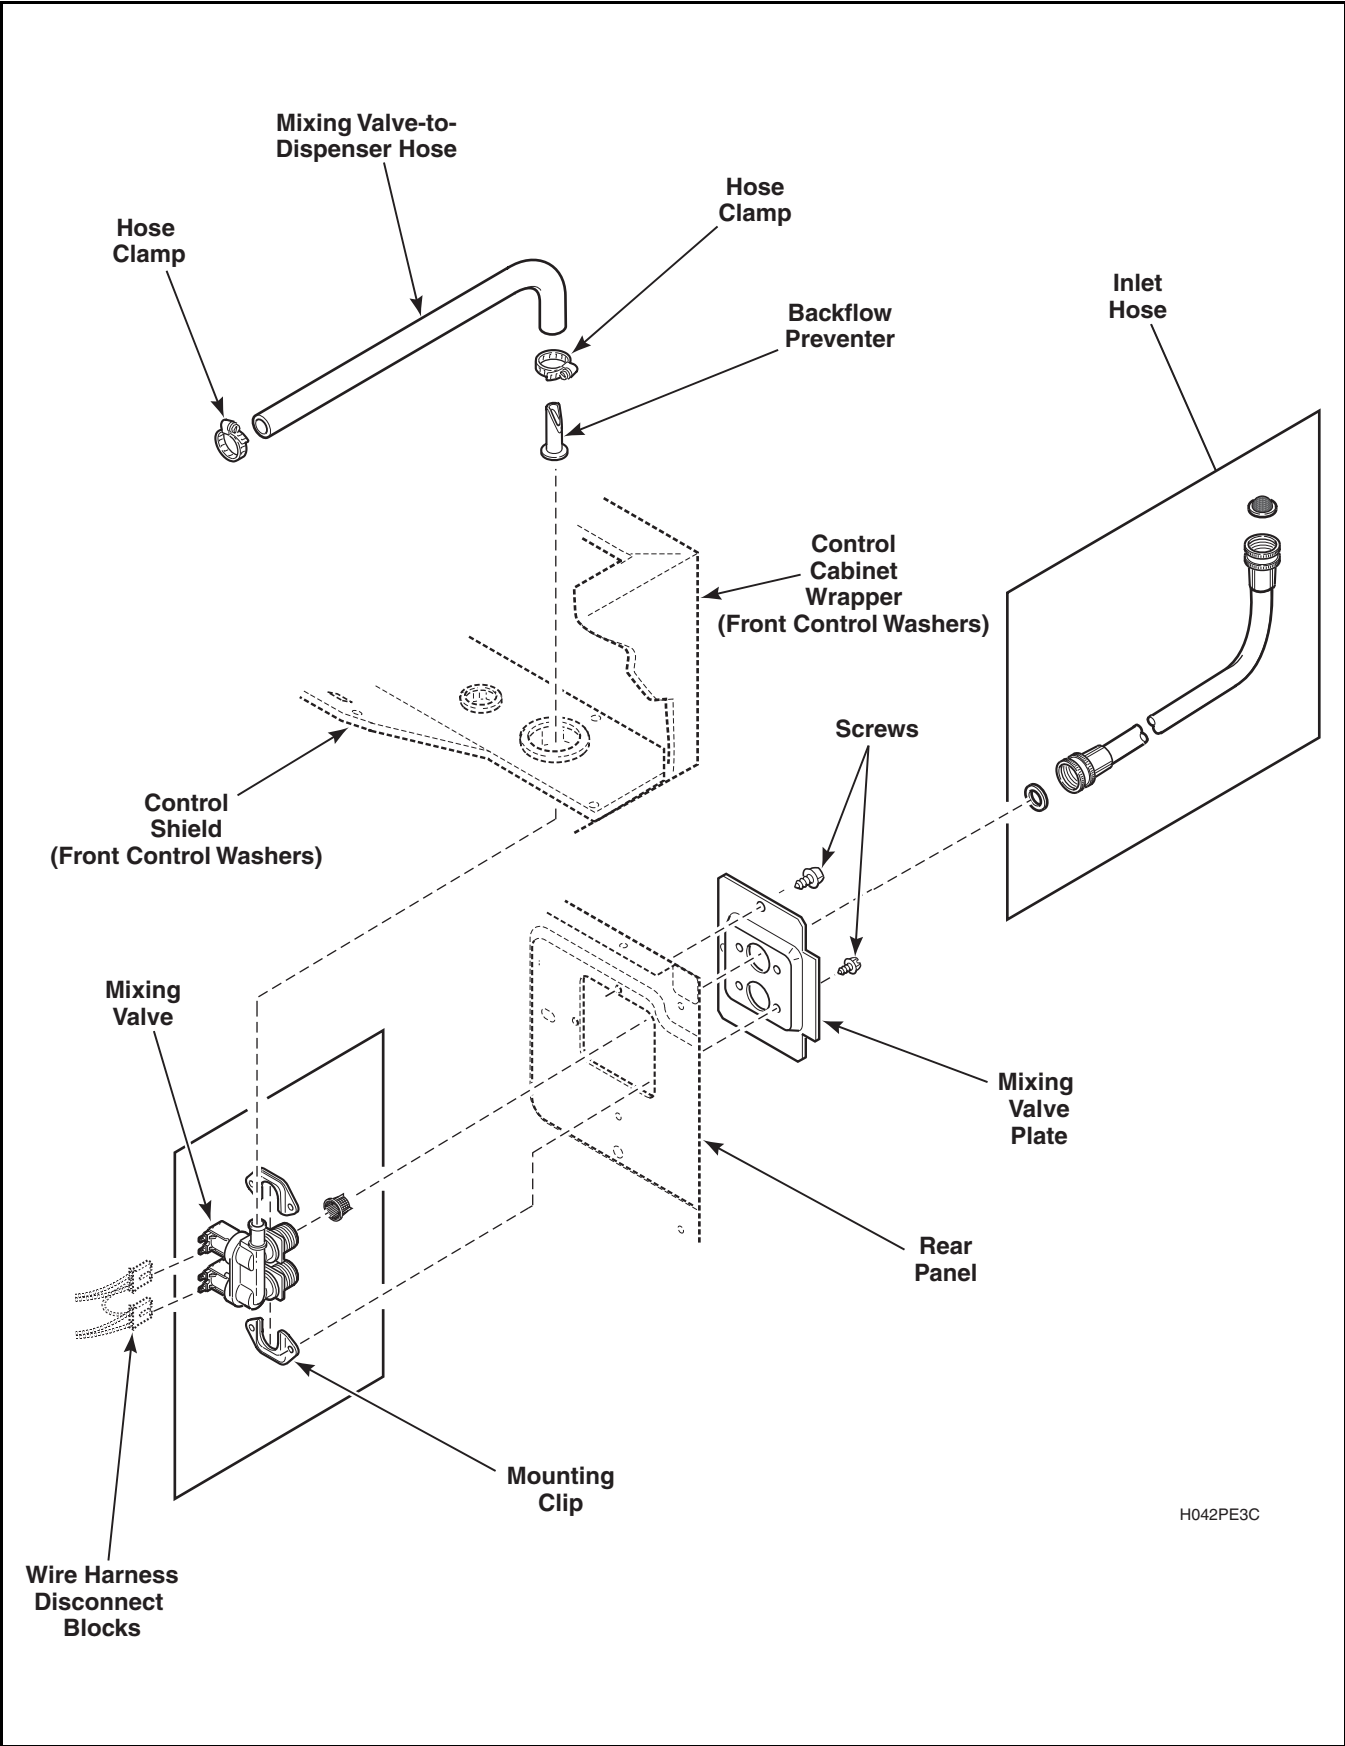

Figure 34
- c. Mixing valve is located on upper back right corner of rear panel. Refer to *Figure 34*.
- e. Loosen hose clamp and remove mixing valve-to-dispenser hose at the mixing valve. Refer to *Figure 34*.
- f. Remove wire harness disconnect blocks from mixing valve solenoid terminals. Refer to *Figure 34*.
- g. Go to rear of washer and remove screw holding mixing valve and plate to rear panel, then remove valve and plate out through opening in rear panel. Refer to *Figure 34*.
- h. Remove screws holding valve to mixing valve plate. Refer to *Figure 34*.